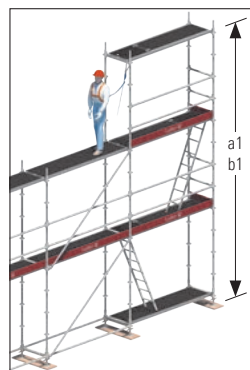

Fig. 12: Attachment overhead
- a1) when attached overhead: at least 5.25 m (Fig. 12)
- b1) when attached overhead: at least 4.75 m (Fig. 12)